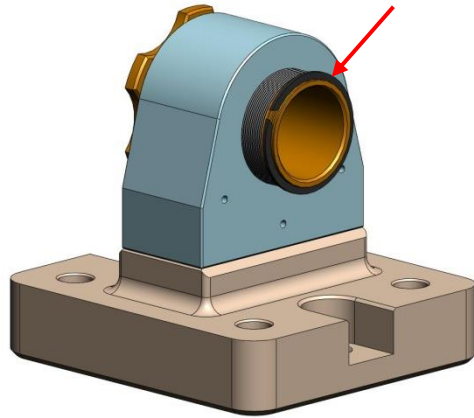

Figure 3.14. Retaining ring in groove on back of Locker Sleeve.
- Clip retaining ring (Smalley FSE-0175-S02) over groove at the end of the **Locker Sleeve**, as shown in Figure 3.14.